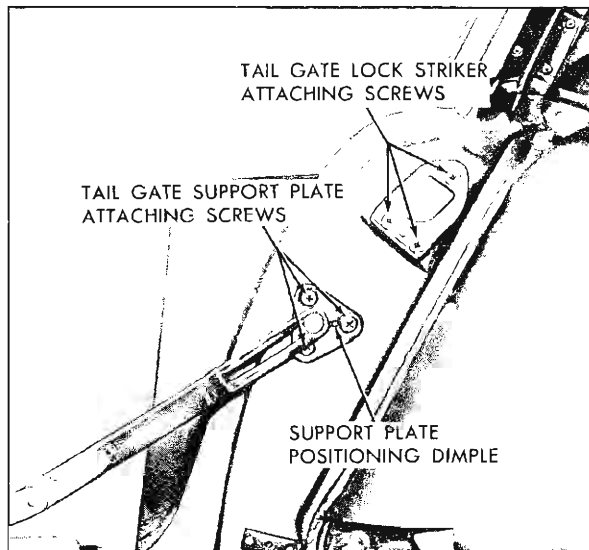

Fig. 5-16 Support and Lock Striker
3. Remove tail gate support attaching screws securing support plates to body and tail gate (Fig. 5-16 and Fig. 5-7) and remove support assembly.
4. To install tail gate support assembly, reverse removal procedure. Install support plate to body with positioning dimple towards front of body (see Fig. 5-16).